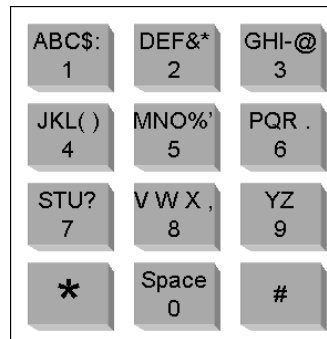

Figure 3. Alternate Keypad Functions
Refer to Figure 3 for the different characters available for each key. Press each key until the desired character displayed. Press the (#) key to accept the character and continue to the next character. When you have finished entering the Wash Name, press the enter (*) key.
- Using the (3) key to scroll forward and the (1) key to scroll back, scroll through the main menu until the "Wash Setup" option is displayed. Press the (*) key to enter.
- Using Figure 3 above as a guide, program the wash 1 name. Once you have entered the entire wash name, press the (*) key to enter.
2. Using the (3) key to scroll forward and the (1) key to scroll back, scroll through the main menu until the "Option Setup" option is displayed. Press the (*) key to enter.
4. Using Figure 3 above as a guide, program the option 1 name. Once you have entered the entire option name, press the (*) key to enter.
Refer to Figure 3 for the different characters available for each key. Press each key until the desired character displayed. Press the (#) key to accept the character and continue to the next character. When you have finished entering the Text Messages, press the enter (*) key.
2. Using the (3) key to scroll forward and the (1) key to scroll back, scroll through the main menu until the "Text Messages" option is displayed. Press the (*) key to enter.
5. Enter your Receipt Header text using the keypad. Refer to Figure 3 for the alternate key functions. When you have finished programming the text, press the (*) key to return to the Receipt Header menu.
7. Using the (3) key to scroll forward and the (1) key to scroll back, scroll through the main menu until the "Text Messages" option is displayed. Press the (*) key to enter.
9. You will be prompted to "Enter Screen #". Select Screen (1) or (2). Press the (*) key to enter.
10. You will be prompted "Enter Line #". Select Line (1) or (2). Press the (*) key to enter.
11. Enter the customized greeting text using the keypad. Refer to Figure 3 for the alternate key functions. When you have finished programming the text, press the (*) key to return to the Text Messages menu.